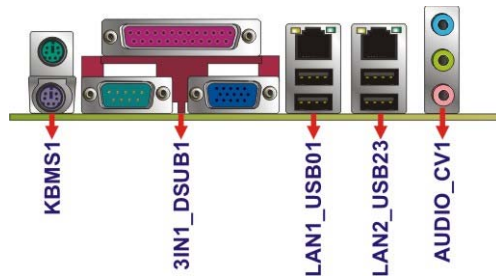

Figure 3-23: External Peripheral Interface Connector
CN Location: See **Figure 3-23**
- CN Location:** See **Figure 3-23**
CN Location:	See Figure 3-23